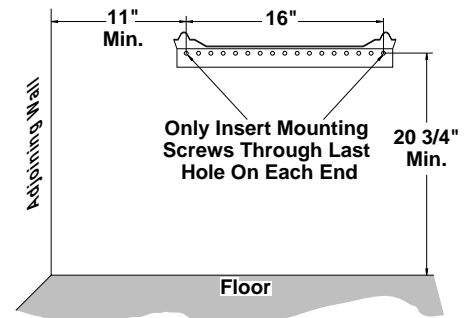

Figure 13 - Mounting Bracket Clearances
**WARNING:** Maintain minimum clearances shown in Figure 13. If you can, provide greater clearances from floor and joining wall.
2. Mark screw locations on wall (see Figure 13).